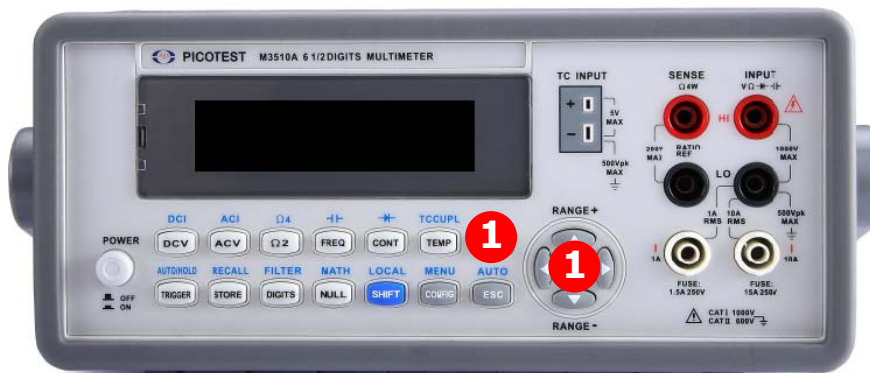

Figure 4-5
1. After enabling the filter (see above), use ◀ and ▶ buttons to locate “READINGS”. Press ENTER to select it. Use ◀ and ▶ to move through the digits and △ and ▽ buttons to increase or decrease the numbers to a desired value (from 2 to 100). Press ENTER to set the value. Press ENTER on “RUN” to start reading as shown in **Figure 4-5**.